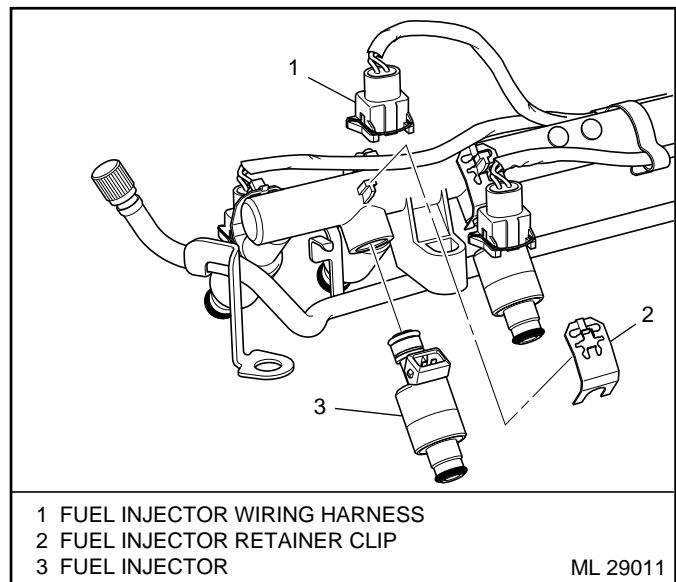

Figure 3-15 - Injector Clip Removal
Figures 3-15 through 3-18
1. Release injector clip by sliding off injector (Figure 3-15).